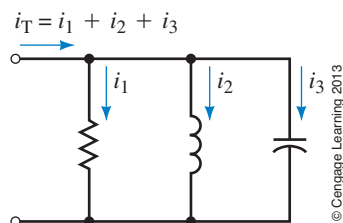

FIGURE 16-18
- For Figure 16-18, determine i_T where $i_1 = 10 \sin \omega t$, $i_2 = 20 \sin(\omega t - 90^\circ)$, and $i_3 = 5 \sin(\omega t + 90^\circ)$.
- If meters are used to measure the currents of Figure 16-18, what will be their readings?